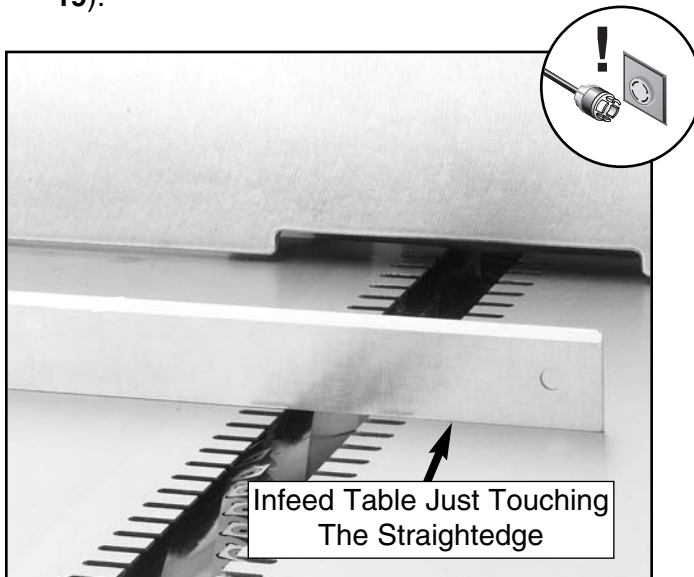

Figure 19. Verifying that the infeed table is even with the outfeed table.
1. Position the edge of a steel straightedge on the outfeed table so that it extends over the cutterhead and onto the infeed table (**Figure 19**).